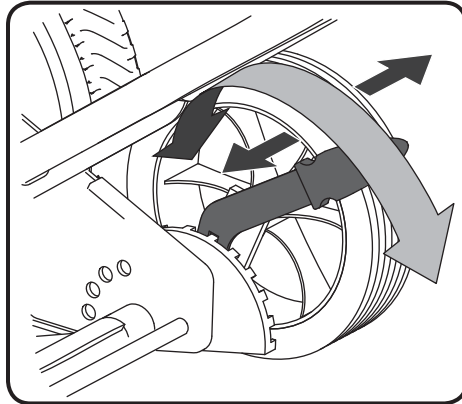

Fig. 4
- Move the right-hand height adjustment lever outward and then position it forward (to lower the cutting height) or backward (to raise the cutting height) before releasing it into the notch to set the desired cutting height (Fig. 4).